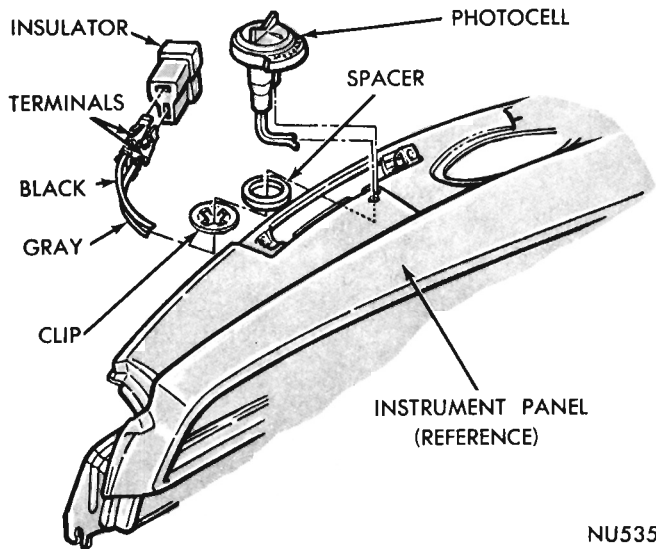

Fig. 1-Photo Cell Installation
**Photocell (Fig. 1)**
Should the lights fail to automatically turn off at day break, shine a bright light into the photocell. Rotate the cap to the centered position between the "Early" and "Late" position. If the lights light, the cap was rotated too far blocking off light to the cell through the window in the cap (Fig. 1). Instruct the owner in the proper use of the Safeguard Lighting System.